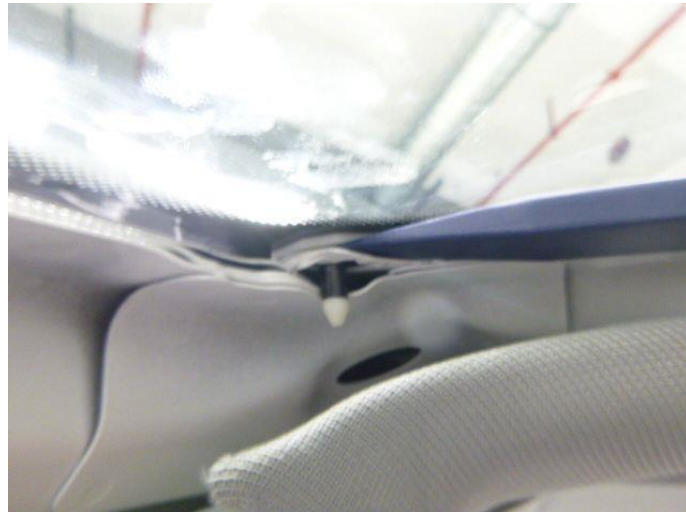

Figure 1. Increase the distance between the plastic pin and metal lug.
1. If the noise occurs on the windshield in the A-pillar area, remove the sun visor and the A-pillar trim according to the repair manual. Once you can see the plastic pin and the metal lug which is in the plastic pin as shown in the illustration. Increase the distance between the plastic pin and the metal lug with a plastic wedge by bending down the metal lug by 1-2mm (Figure 1).